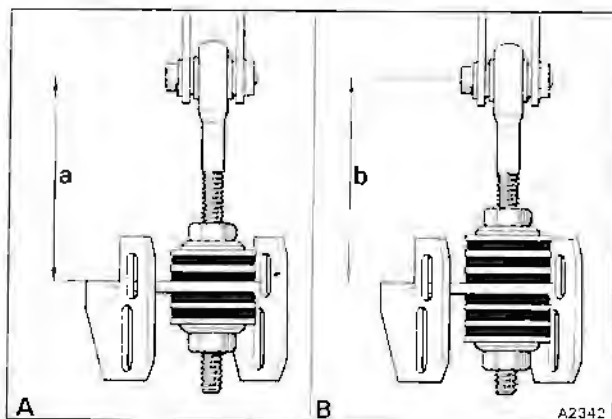

Fig H3-13 Sub-frame to longeron tie-bar setting
7. Assemble the sub-frame to body tie-rods and set them to the length shown in figure H3-13. Four compression washers are fitted to each tie-rod on Rolls-Royce cars and six compression washers to Bentley cars.